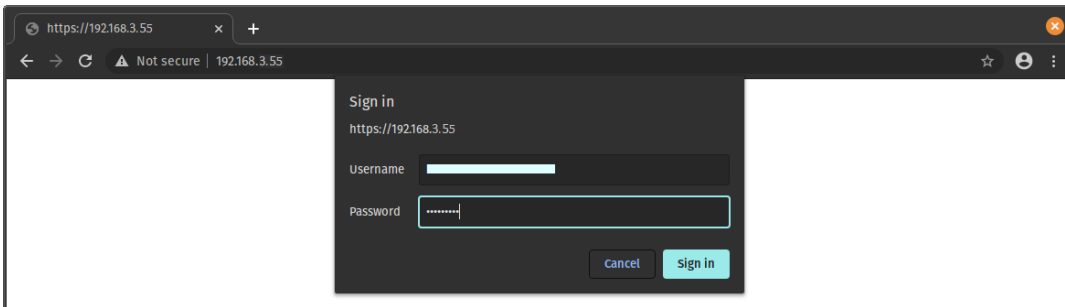

Figure 40
7. In the login dialog which will be shown (see Figure 40), enter the username and password which were shown under Temporary credentials.